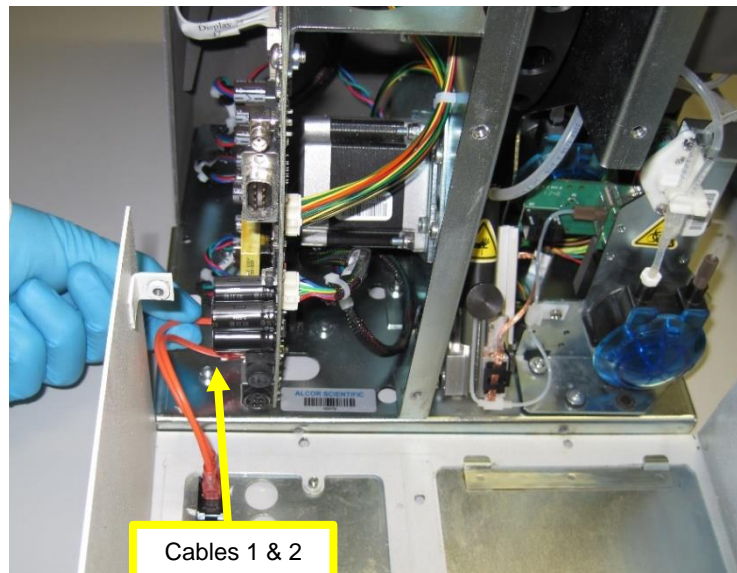

Figure 6
- Two additional wires must be disconnected before the analyzer can be separated. These wires lead from the power switch to the main electronics board. Disconnect these wires from the main electronics board. Figure 6